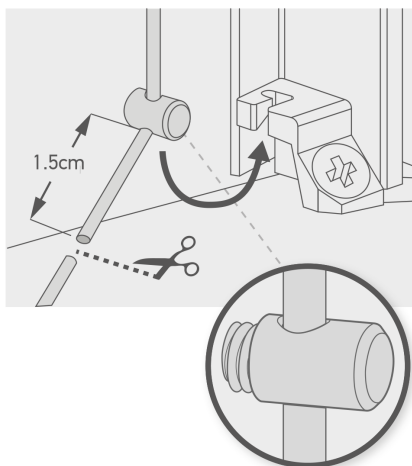

Fig 8A: Cord stop
1. Use the 2mm allen key supplied to adjust the cord stops (see fig 8A).